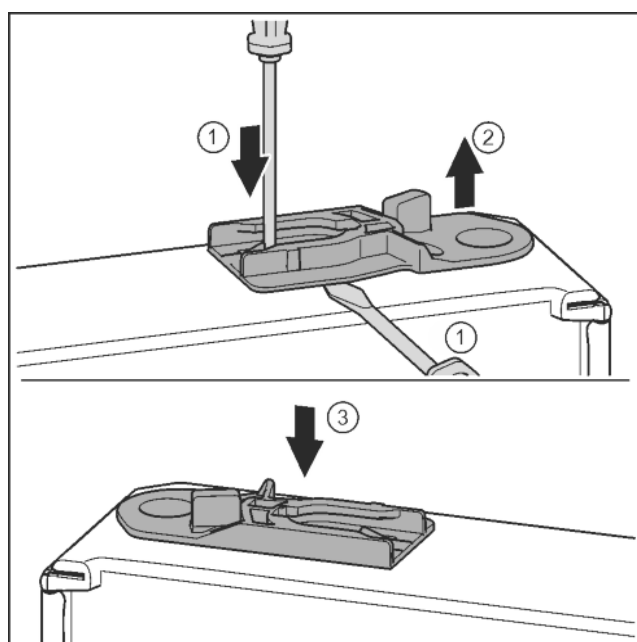

*Fig. 30*
- Remove the cover and fix it on the other side. *Fig. 30 (1)*
- Place the bearing bracket on the other side and screw in with the aid of a T25 screwdriver. Start with screw 2 at the bottom in the middle. *Fig. 30 (2)*
- Screw in screws 3 and 4. *Fig. 30 (3, 4)*
- Rotate the soft stop connection 180°. Screw in with a T25 screwdriver on the other side of the bearing bracket. *Fig. 30 (5)*
- Insert the bearing pin completely. Make sure that the catch mechanism is pointing to the rear. *Fig. 30 (6)*